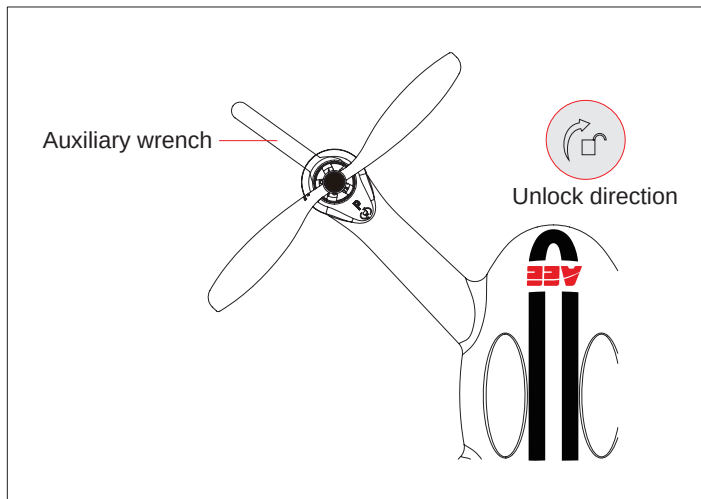

Figure 13
**⚠** As shown as in the Figure 13, prevent motor rotation by using the auxiliary wrench or your hand, then remove propeller by turning towards the unlock direction.